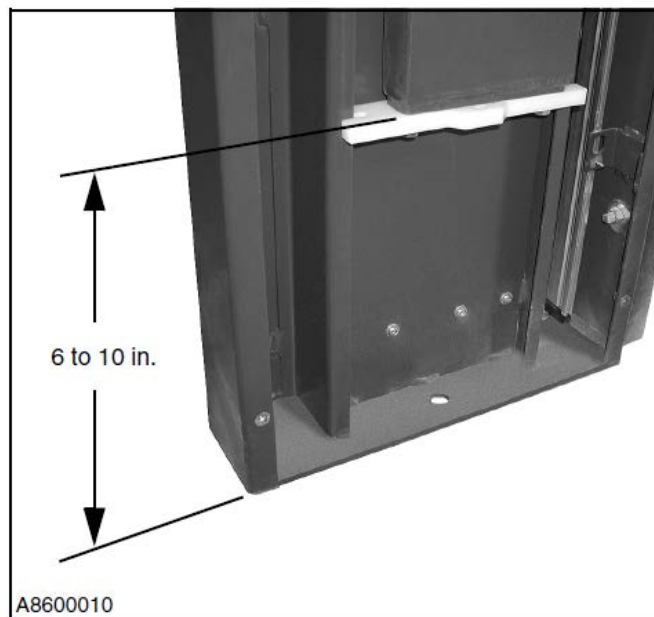

Figure 40
6. Securely block the counterweight in the position shown in Figure 40.
**IMPORTANT:** The 6 to 10-in. mounting height for each counterweight, as indicated in Figure 40, is adequate for most Turbo Seal Self Repair doors. However, for extra-wide or short doors, the counterweights may have to be adjusted closer to the bottom of the side column. Also, the guides on the counterweight must be behind the conduit guides in the side column.